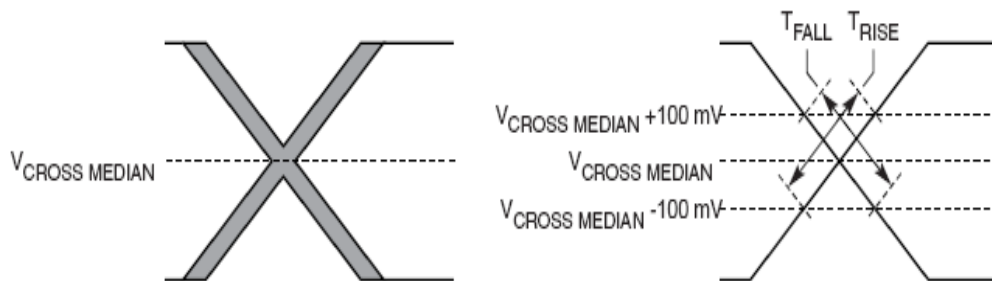

Figure 42. Single-ended measurement points for rise and fall time matching
6. Matching applies to the rising edge for  $\text{SD}_n\text{\_REF\_CLK}$  and falling edge rate for  $\overline{\text{SD}_n\text{\_REF\_CLK}}$ . It is measured using a 200 mV window centered on the median cross point where  $\text{SD}_n\text{\_REF\_CLK}$  rising meets  $\overline{\text{SD}_n\text{\_REF\_CLK}}$  falling. The median cross point is used to calculate the voltage thresholds that the oscilloscope uses for the edge rate calculations. The rise edge rate of  $\text{SD}_n\text{\_REF\_CLK}$  should be compared to the fall edge rate of  $\overline{\text{SD}_n\text{\_REF\_CLK}}$ , the maximum allowed difference should not exceed 20% of the slowest edge rate. See Figure 42.